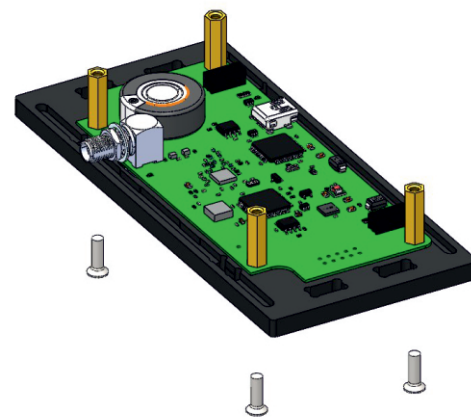

Fig. 75: Installing the circuit board
1) Place the UHF circuit board on the bottom base plate (marked “UHF↓”). Secure the board using four PCHSS M3x15 brass studs and four M3x10 sunk screws (Fig. 75):